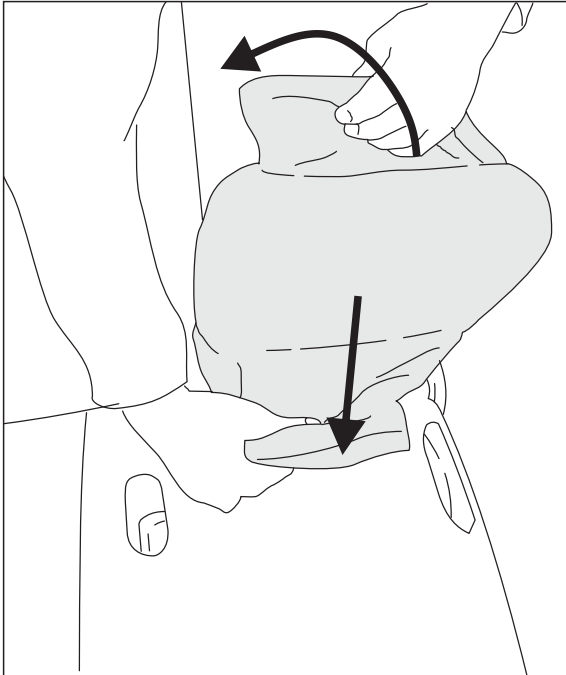

Fig. 8
8. Tilt armrest forward. Turn the armrest cover inside out, align it to the top of the armrest and roll the cover over (Fig. 8).